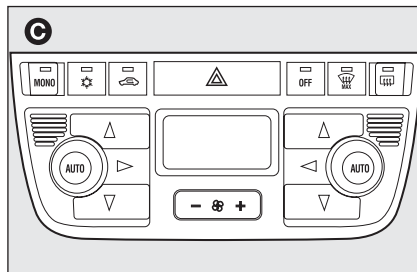

fig. 6
- ☐ with two-zone automatic climate control system **C-fig. 6**.